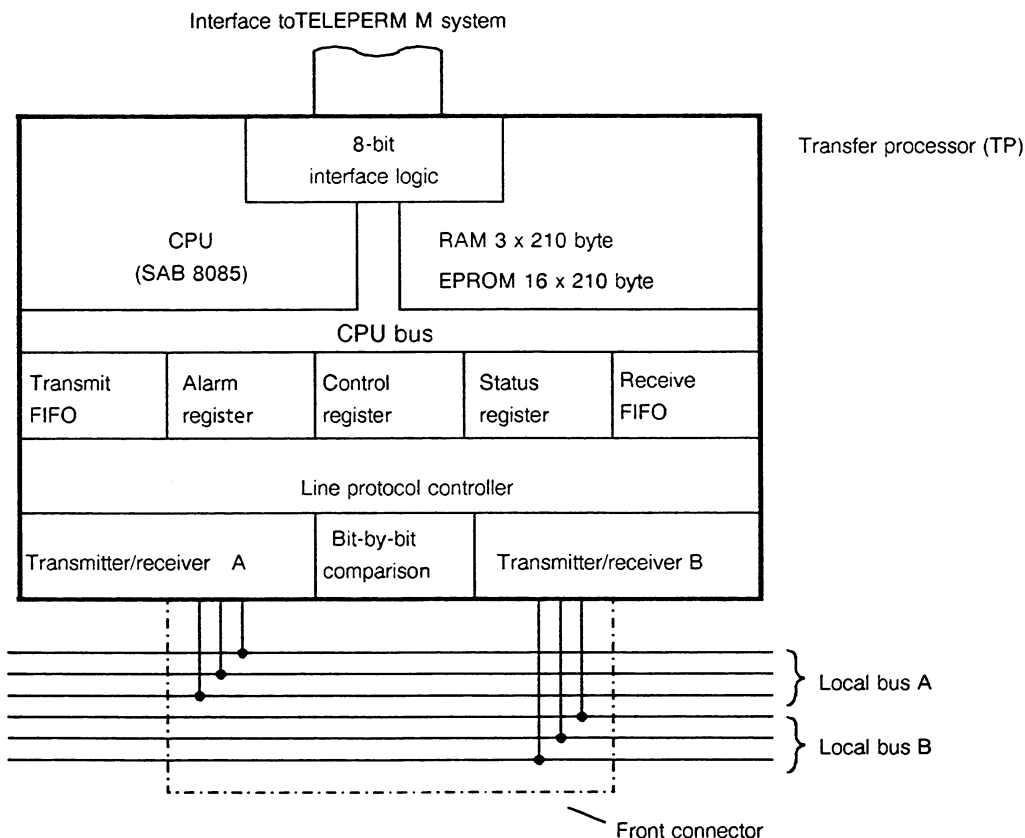

Fig. 2 Mode of operation
The basic mode of operation of the N16 is shown in Fig. 2. Bus interface N is located on the local bus interface and bus processor 16 on the I/O interface to the process automation unit (PAE). Traffic with the PAE is carried out in block transfer mode according to the procedures of the SIEMENS 300 16-bit systems. The transfer is triggered by a central initiative (ZI) with the I/O instruction "Instruction output" (BFA). The N16 subsequently operates with peripheral initiative (PI).